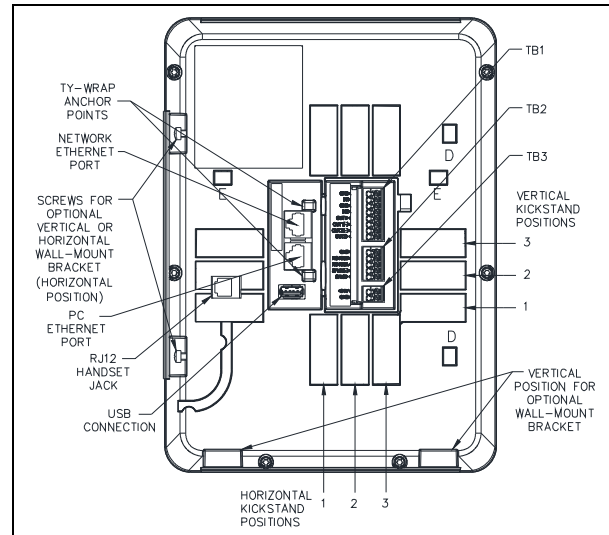

Figure 4. HUBBCOM Smart Controller—Rear View
5. Install the kickstand. The kickstand provides four positions in both orientations to suit the situation where it will be used (see Table 1 and Figure 4).
2. Insert one side of the kickstand with the flange properly oriented into the desired position in the rear cutout (see Figure 4).
5. Remove the two #8 × ½-inch mounting bracket screws from the bottom of the rear panel and set aside (see Figure 4).
7. With the proper orientation for the unit's configuration, angle the unit to hook it onto the top flange brackets (D-D or E-E, see Figure 4), then rotate and slide it downward until it rests on the mounting bracket.
7. Remove the two #8 × 1/2-inch mounting bracket screws from the bottom of the rear panel and set aside (see Figure 4).
9. With the proper orientation for the unit's configuration, angle the unit to hook it onto the top flange brackets (D-D or E-E, see Figure 4), then rotate and slide it downward until it rests on the mounting bracket.
HUBBCOM Smart Controllers are equipped with dual Ethernet ports. The port furthest from the USB port must be used to connect to the Ethernet network. The port closest to the USB port can be used to connect a PC (see Figure 4).
2. (Optional) Plug an Ethernet cable from a PC into the remaining RJ45 jack(see Figure 4).